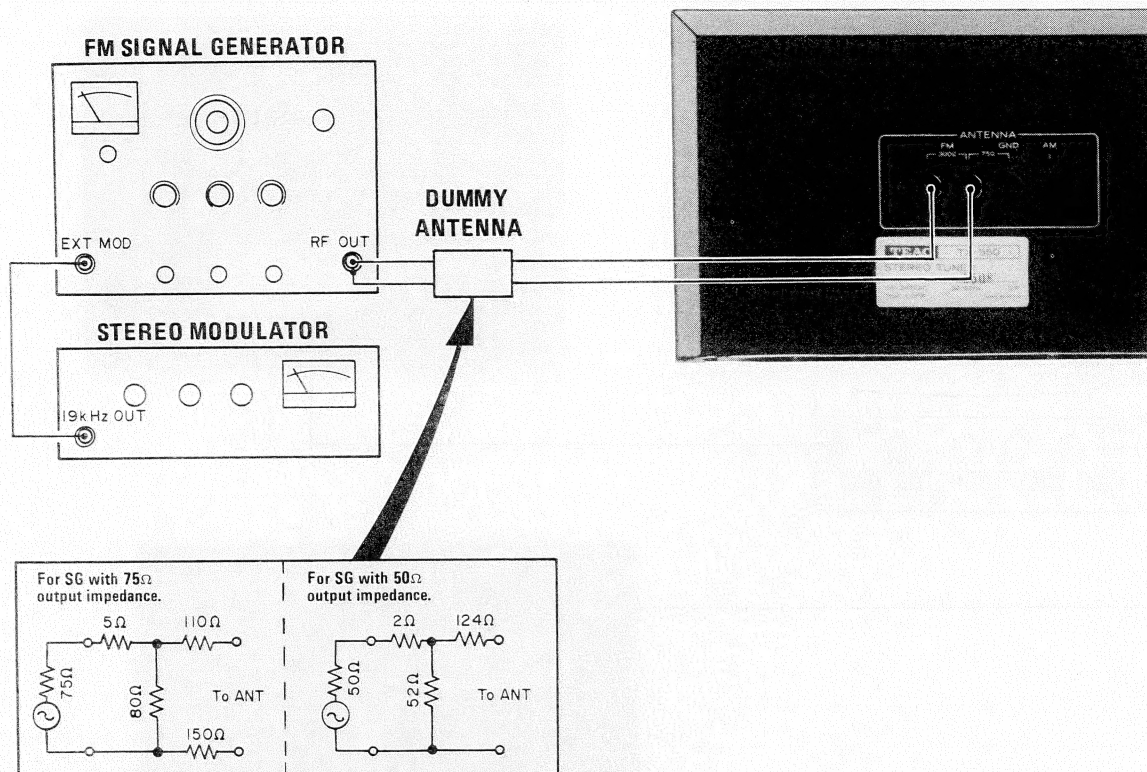

Fig. 3
After the above procedures have been followed, connect an FM signal generator to the TX-550(B) as shown in Fig. 3 and set both pieces of equipment as follows :